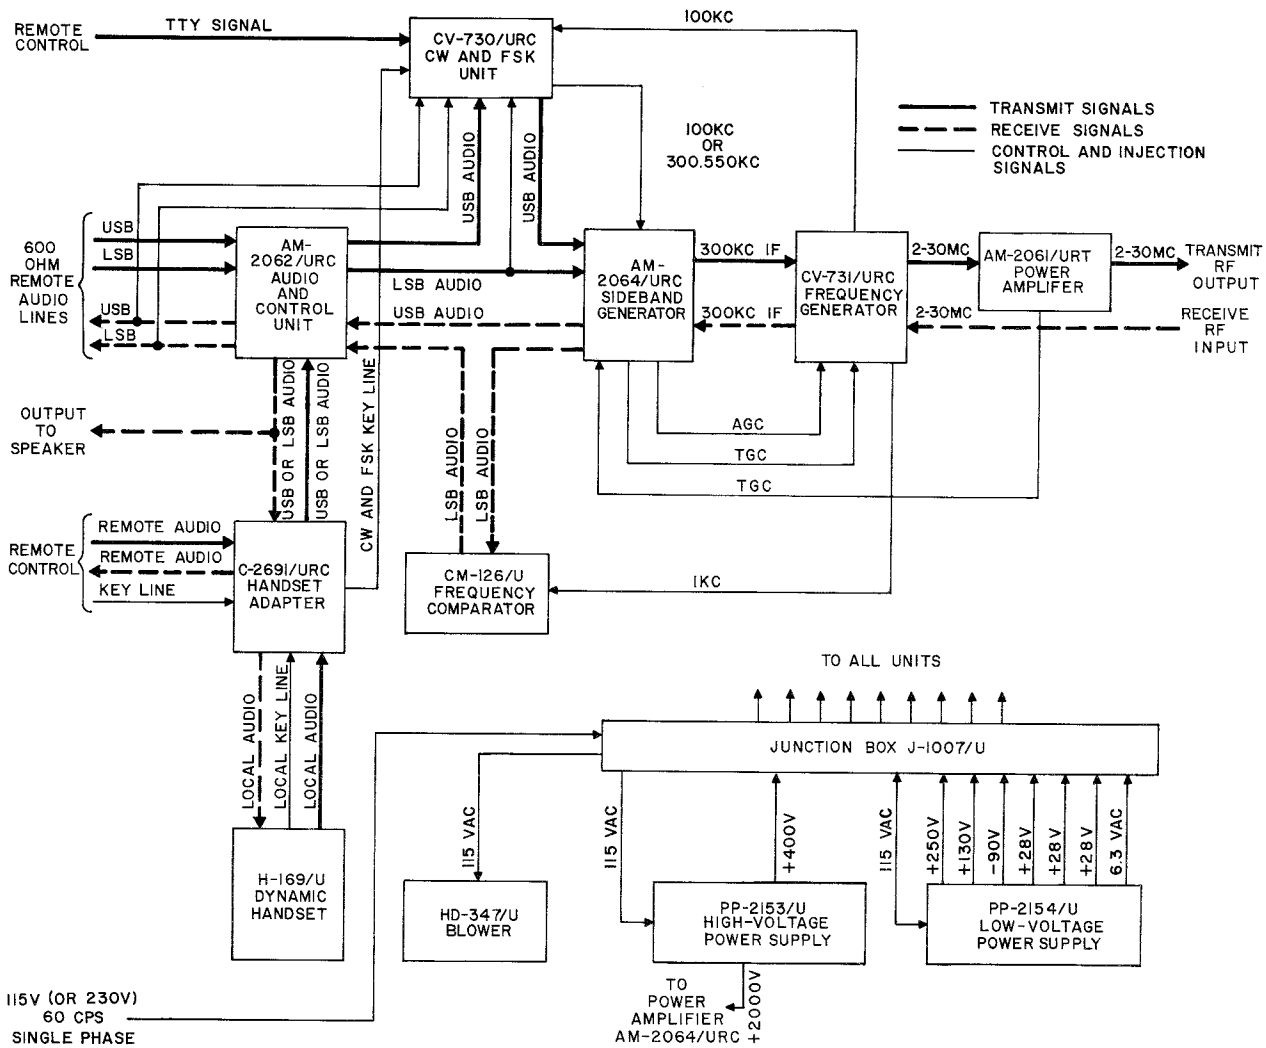

Figure 4-1. Radio Set AN/URC-32( ), Over-all Functional Block Diagram
An over-all functional block diagram of the transceiver is shown in figure 4-1. The various signal inputs and signal outputs are separated into trans-
mitting, receiving, and control signals. The transmit signal flow is indicated by heavy lines, the receive signal flow is indicated by dashed lines, and the control signals by light lines. The high-voltage and low-voltage power supply units are also shown in the block diagram. The three main function circuits, transmit, receive, and control circuits, which contain more than one unit are discussed using a functional block diagram for each circuit. Due to the characteristics of the control circuit, the control circuit functional diagram requires detailed illustration coverage. The high-voltage and low-voltage power supply units are discussed using the over-all functional block diagram of the transceiver (figure 4-1).
d. POWER SUPPLY. - Refer to figure 4-1. Input 115-volt a-c (or 230 volt a-c) power is applied through Interconnecting Box J-1007/U (junction box) to Power Supply PP-2153/U (high-voltage power supply), Power Supply PP-2154/U (low-voltage power supply), and Electronic Equipment Air Cooler HD-347/U (blower). The low-voltage power supply furnishes filament, bias, +28-volt d-c relay power, and low-voltage plate power for the transceiver. The high-voltage power supply furnishes screen and plate voltages for the power amplifier. All supply voltages, except the high-voltage supply to the power amplifier, are applied to the transceiver units through the junction box.